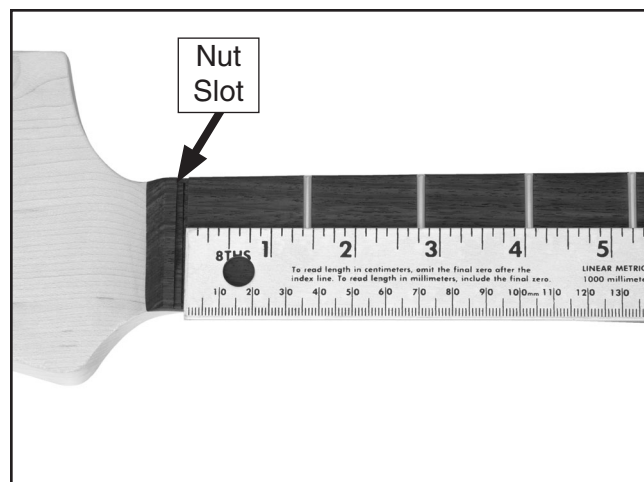
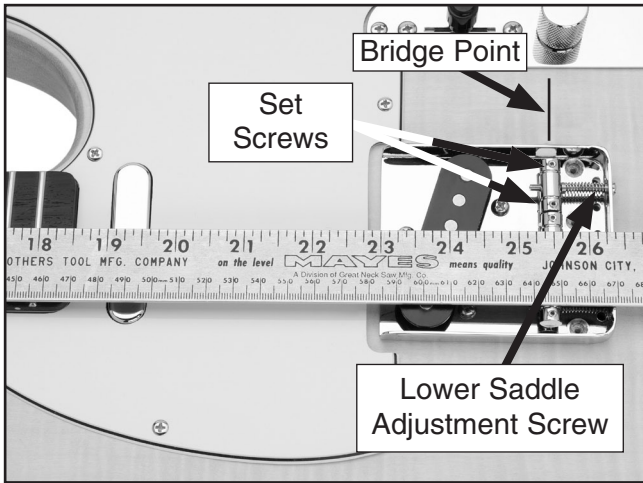

Figure 15. Measuring $25\frac{1}{2}$ " from nut along center line.
Figure 16. Bridge point and high E saddle adjustment screw.
7. Using the straightedge, measure $25\frac{1}{2}$ " from the fretboard side of the nut slot (**Figure 15**) along the center line to the bridge point (**Figure 16**), and mark this location on the guitar.
8. Using a Phillips head screwdriver, turn the lower saddle adjustment screw so the set screws shown in **Figure 16** are centered over the bridge point.